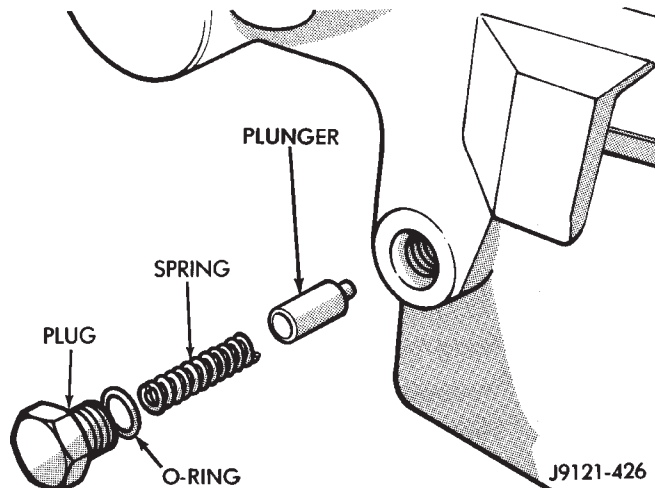

Fig. 77 Detent Pin, Spring And Plug Installation
(22) Install plug in lockpin access hole.
(23) Install detent plunger, detent spring and detent plug in case (Fig. 77).